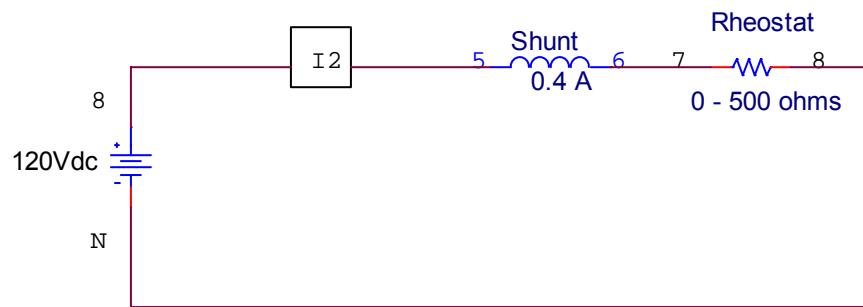

Figure 2: DC Motor Field Circuit
11. Complete the DC Motor connections by constructing the DC Motor field circuit of Figure 2.